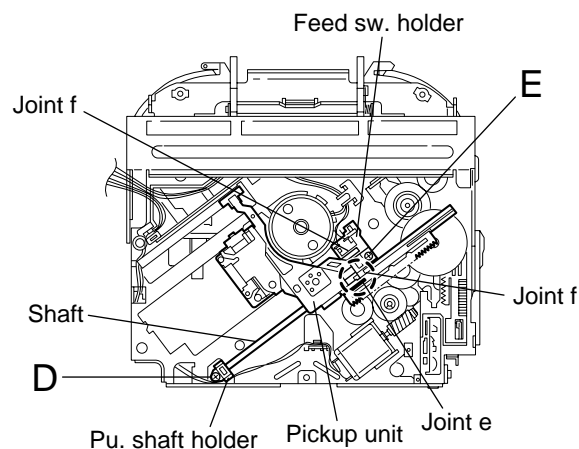

Fig.13
■ Removing the pickup unit (See Fig.13 to 17)
■ Reattaching the pickup unit (See Fig.13 to 16)